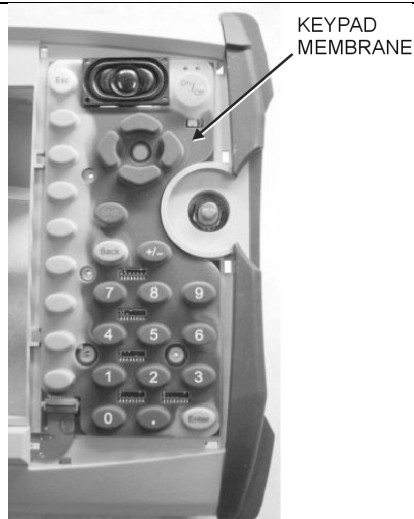

Figure 21. Keypad Membrane
3. Remove the keypad membrane by carefully lifting the speaker and pulling the membrane off of the keypad PCB (Figure 21).